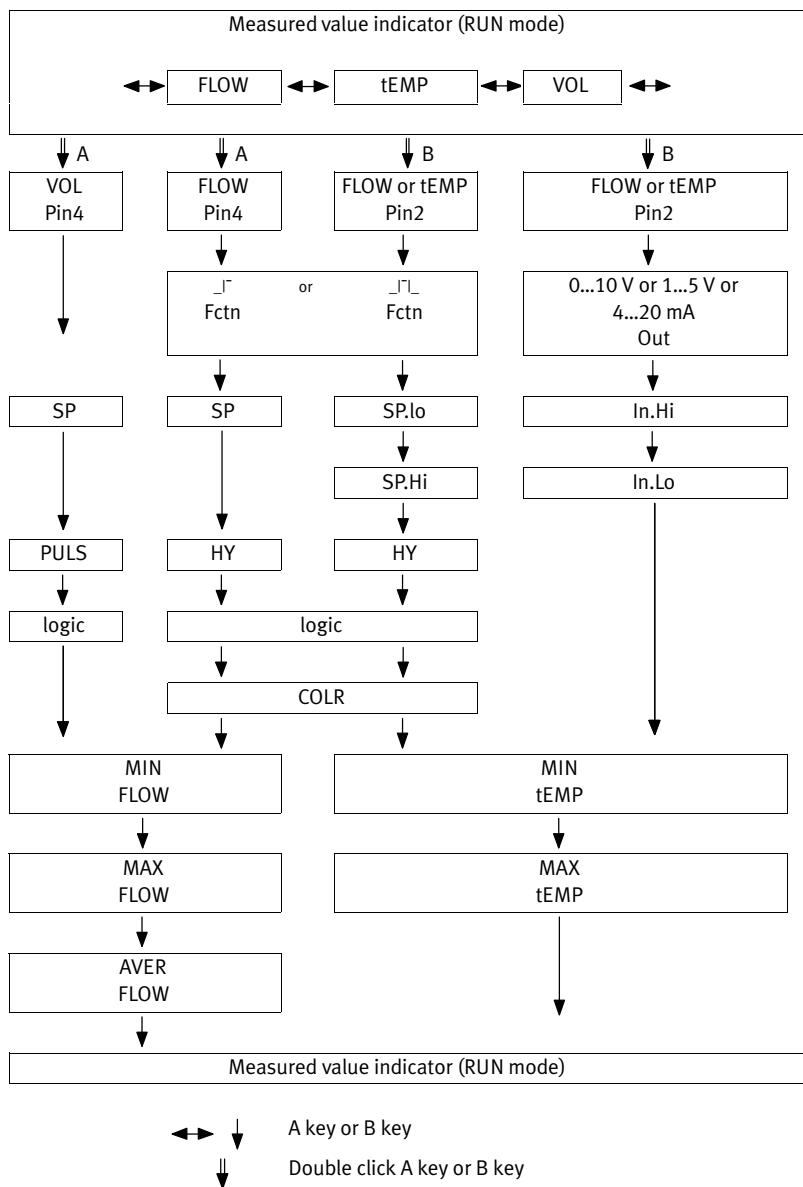

Fig. 12 Menu structure for SHOW mode
By pressing the A key or B key, the display can be switched between the measured variables flow rate, volume and temperature (➔ Fig. 12).
1. Click on A key or B key, depending on the output (→ Fig. 12).
1. Press A key or B key several times, depending on the output (→ Fig. 12).
1. Press A key multiple times (→ Fig. 12).